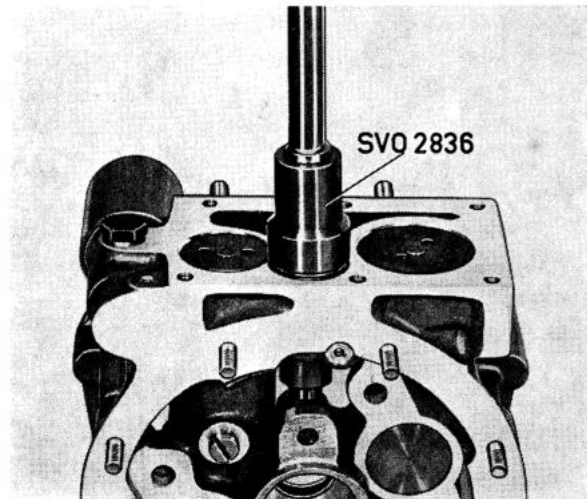

Fig. 4-43. Removing the plug
2. Remove the plug under the relief valve with tool SVO 2836, see Fig. 4-43. Pull out the large piston